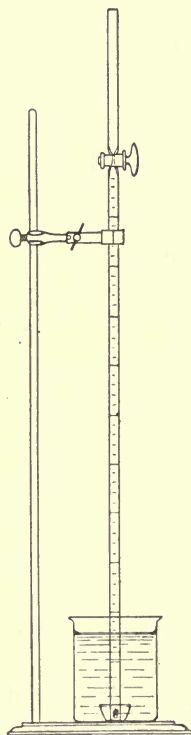

FIG. 5.
15. First Method. By Means of the Eudiometer. Accurately weigh out 0.03 gm. of magnesium (Mg) ribbon and introduce it into a porcelain crucible. Fill the crucible with water and lower it into a beaker likewise filled with water. Now fill the long arm of the eudiometer with water and by covering the end with the finger, invert the tube in the beaker of water and clamp in position as shown in Fig. 5. The tube should entirely cover the metal in the crucible and should be completely filled with water below the stopcock.